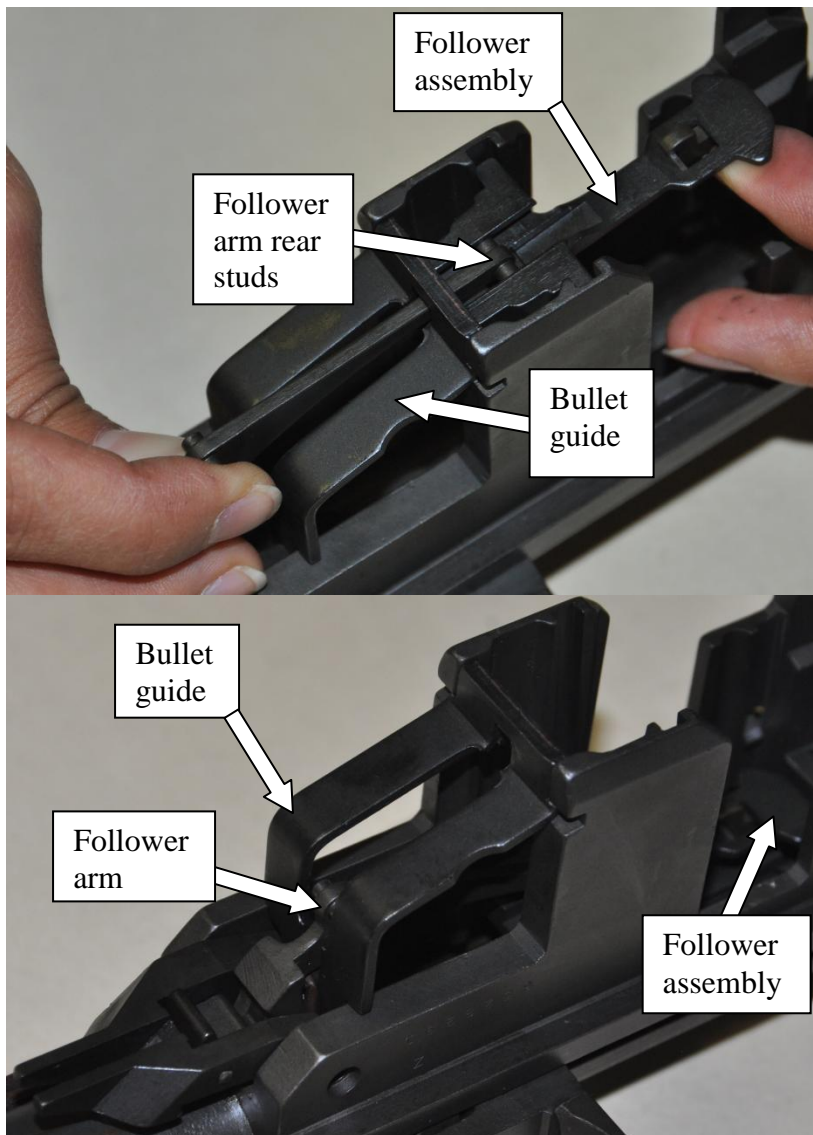
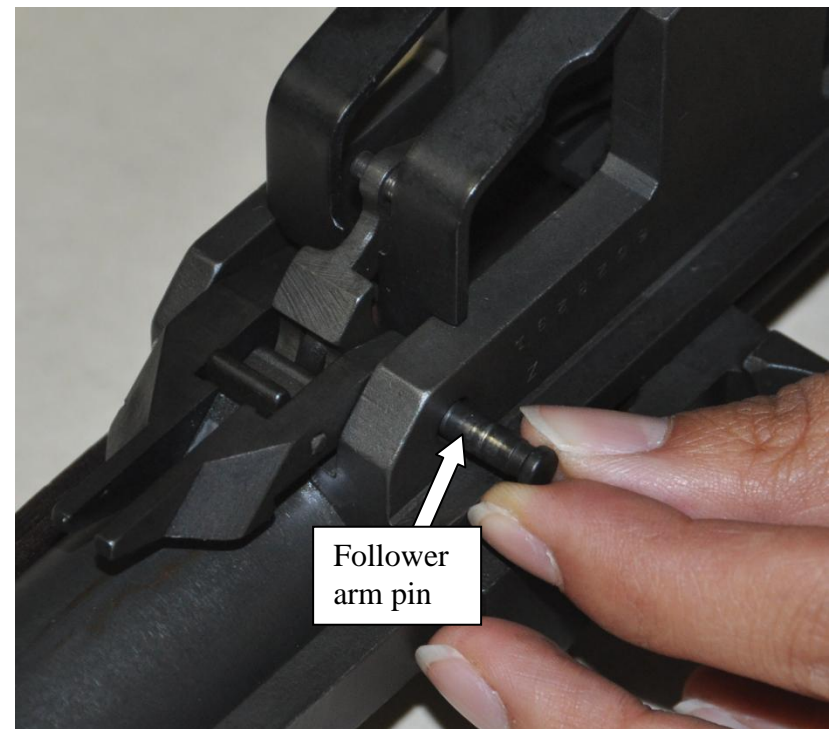

Figure 46. Follower arm engaged
Figure 47. Insertion of follower arm pin
- 8) Lift the follower assembly and place the follower arm by passing its rear studs through the bullet guide and inserting them into the guide grooves on the follower assembly (fig 46). Align the holes in the operating rod catch assembly, follower arm, and bullet guide with those in the receiver and replace the follower arm pin from the operating rod side (fig 47).